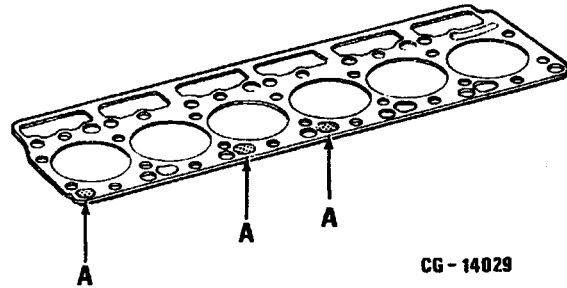

Figure 4.65. Location of Three Holes in Cylinder Head Gasket
**NOTE:** The slotted gasket has been updated to eliminate three holes "A" at the front left corner of the gasket. Refer to Figure 4.65. While the three holes are no longer utilized, the surrounding "PRINTOSEAL" remains to enhance gasket sealing. This current gasket will work for service on all DT/DTA-360 engines.